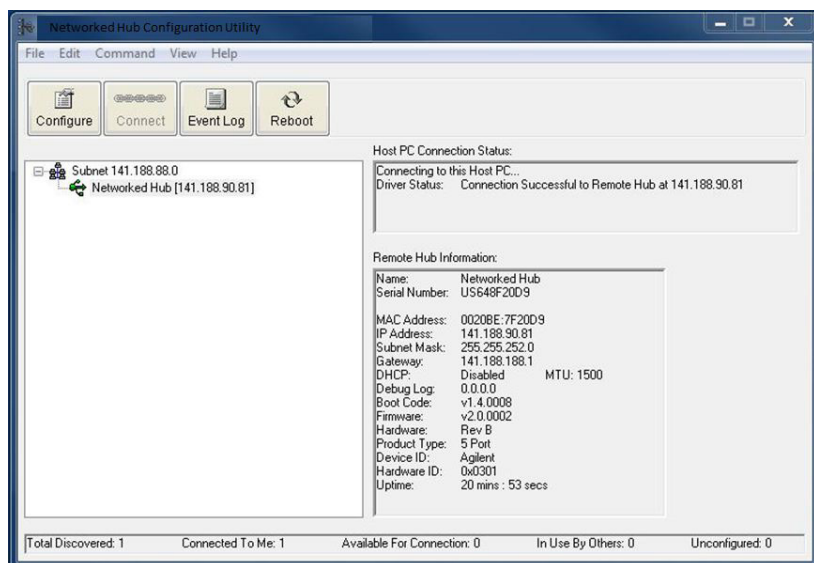

Figure 8. Networked Hub configuration utility display
2. Configure the networked hub (See Figure 8).	Double-click the networked hub or select the device and click Configure to set the IP address, subnet mask, and default gateway.